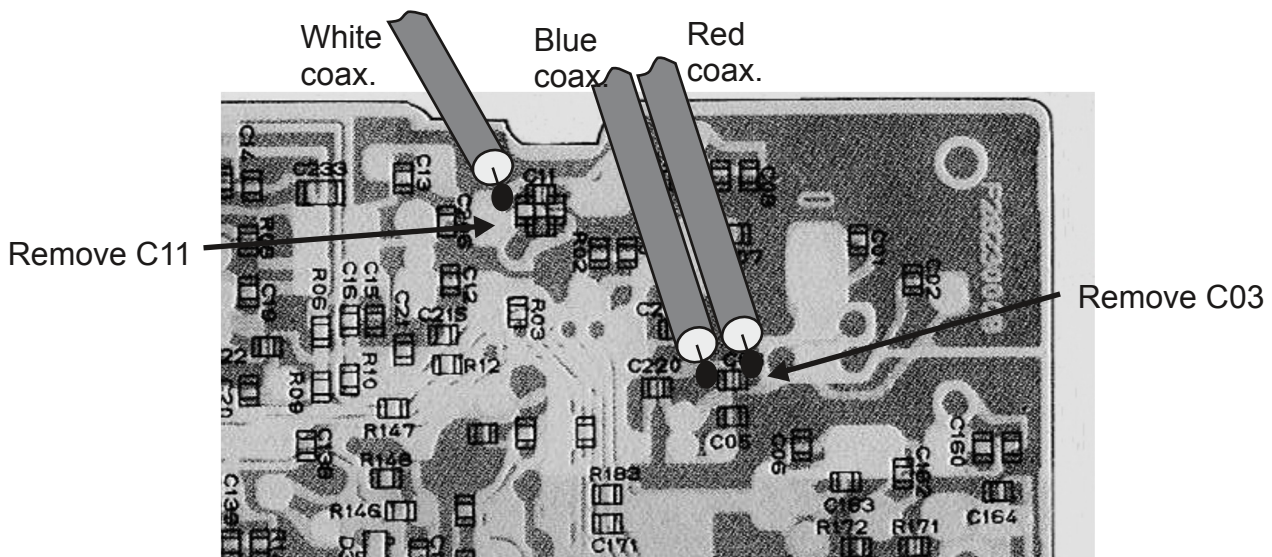

Figure 4: Component Removal and coax connections
8. Remove the surface mount capacitors C03 and C11 from the under side of the PCB. Solder the coaxial cables from the kit as shown in Fig. 4. Keep the ends of the cables as short as possible and lead the cables towards the small cut out at the rear of the main board. NOTE: ensure that whiskers of braid do not cause short circuits. Solder the braid to any convenient location on the ground plane. The white cable connects to T01 end of C11 location: the blue cable to L01 end of C03 location and the red cable to J02 end of C03 location.